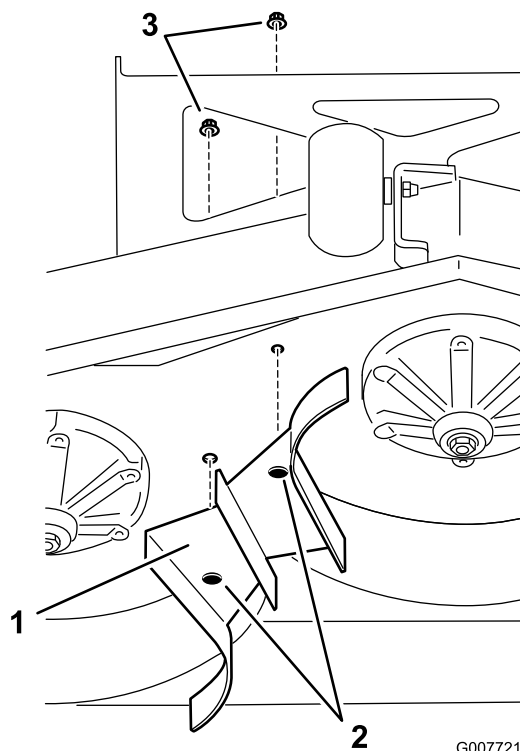

Figure 24
1. Remove the two carriage bolts and lock nuts securing the center mulch baffle to the mower deck (Figure 24).